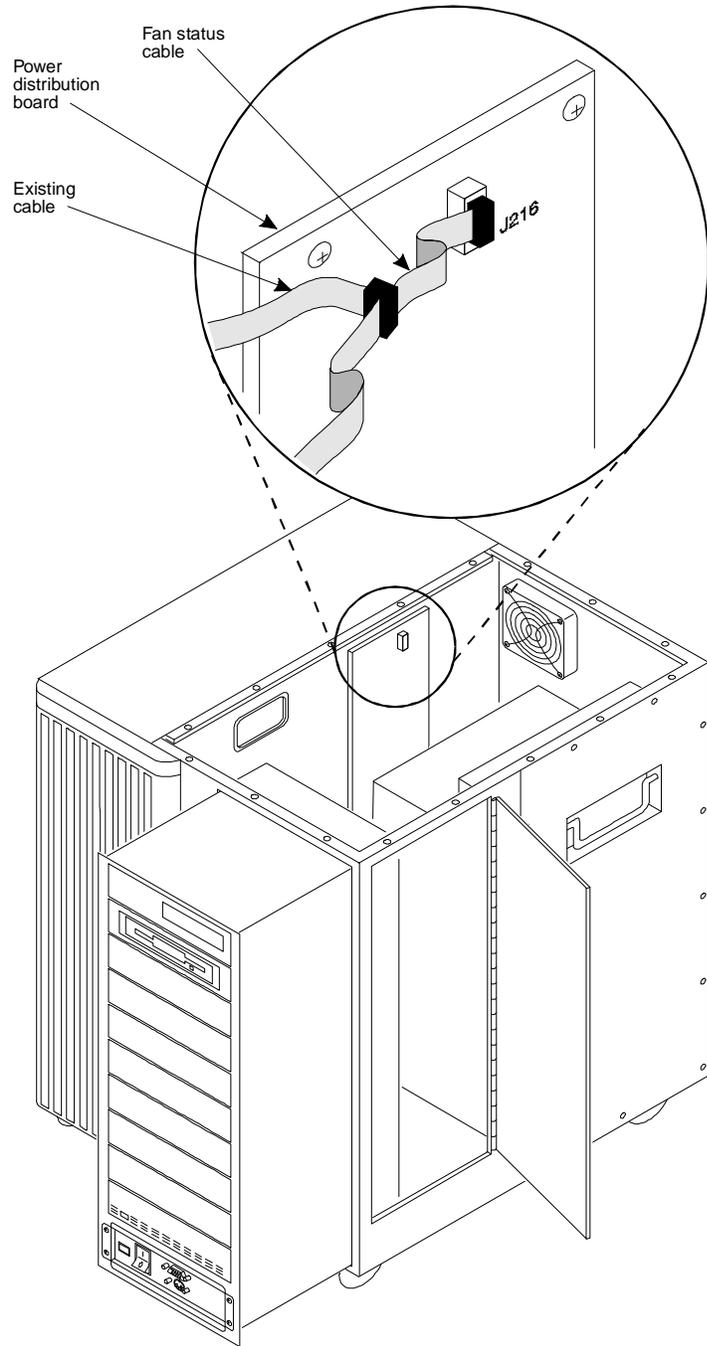

Figure 9-29. Fan Status Cable Connection
4. Verify that the Remote Maintenance circuit card fan status cable is connected to J216 on the power distribution panel as shown in Figure 9-29 and dressed through the same portal into the card cage area as in Step 1.